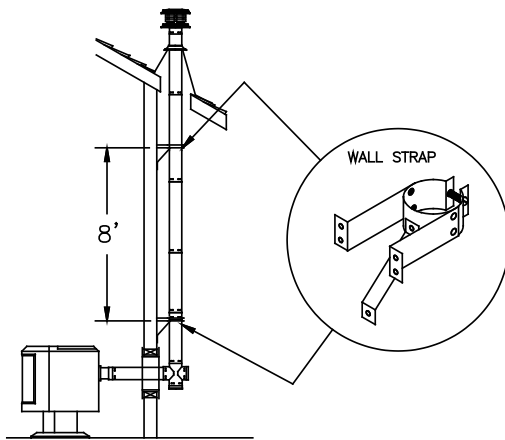
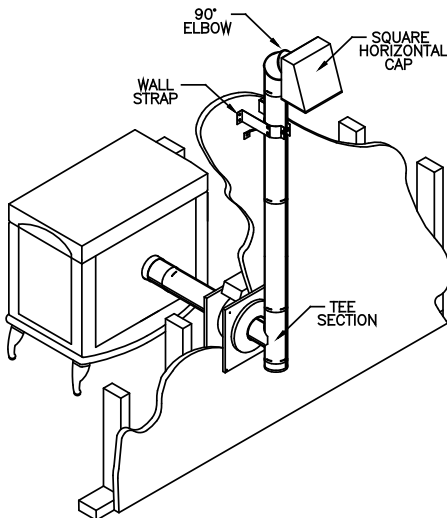

Figure 15
Figure 16
D. Attach Wall Strap just above the tee. Wall Straps must be placed every 8-feet along an exterior vertical run (**Figure 15**). If your exterior vertical run terminates horizontally before penetrating the roofline, install at least one Wall Strap on the Pipe Section before 90 Degree Elbow and Horizontal Cap (**Figure 16**). Under no circumstances can a Vertical Cap be installed adjacent to vertical wall. PelletVent Pro offers fixed and Adjustable Wall Straps to maintain a 1"-3" clearance, as desired. If Assemble Pipe Sections in the same manner described in Step 2 of the general instructions.